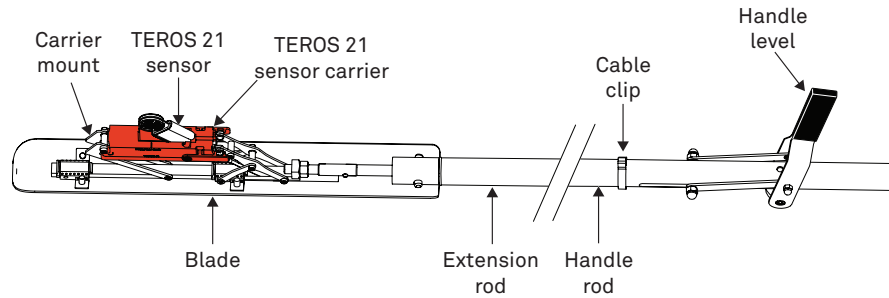

Figure 25 TEROS 21 sensor inserted in sensor carrier
1. Position the sensor into the carrier (Figure 25 shows the TEROS 21 inserted into the carrier).